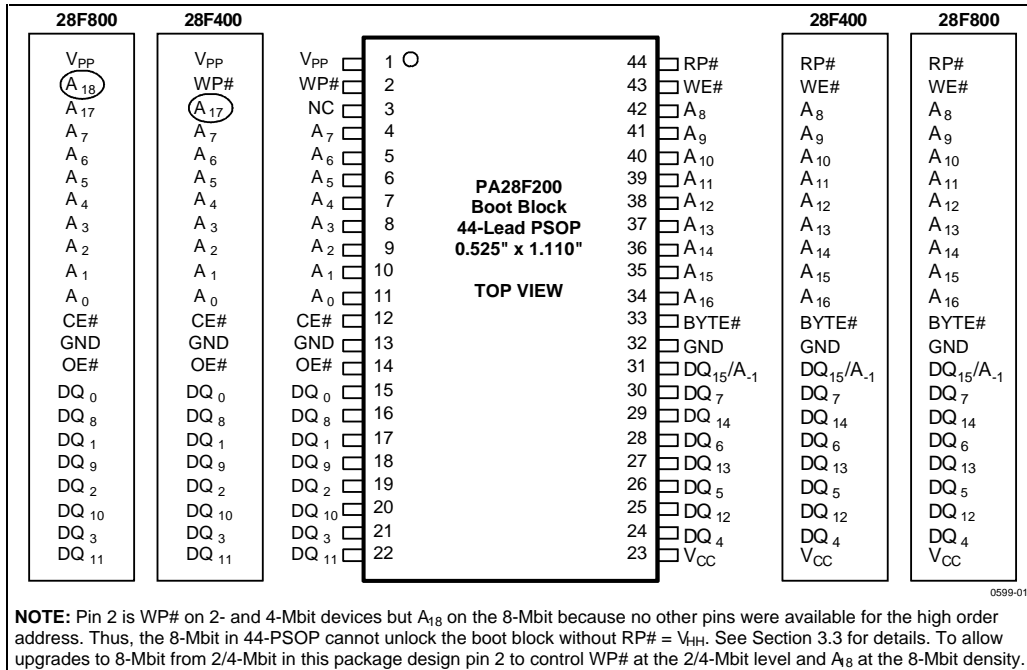
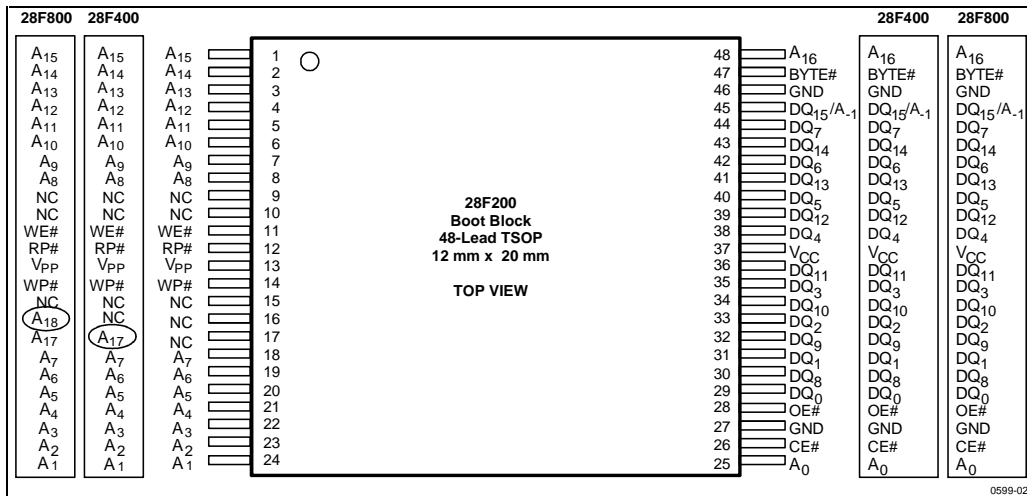

Figure 1. 44-Lead PSOP Pinout Diagram
Figure 2. 48-Lead TSOP Pinout Diagram
-002	Minor changes throughout document. Section 3.1.5 and Figure 14 redone to clarify program/erase operation abort. Information added to Table 2, Figure 1, and Section 3.3 to clarify WP# on 8-Mbit, 44-PSOP. Read and Write Waveforms changed to numbered format. Typical numbers removed from DC Characteristics and Erase/Program Timings.
-003	Minor text changes throughout document. Figure 1, 44-PSOP pinout: mistake on pin 3 on 2-Mbit pinout corrected from A ₁₇ to NC. Specs t_{EHQZ} and t_{GHQZ} improved. Explanations of program/erase abort commands reworked in Table 6, Command Codes.
These Smart 5 memory products are available in the 44-lead PSOP (Plastic Small Outline Package), which is ROM/EPROM-compatible, and the 48-lead TSOP (Thin Small Outline Package, 1.2 mm thick) as shown in Figure 1, and 2, respectively.
Intel's Smart 5 boot block architecture provides upgrade paths in each package pinout up to the 8-Mbit density. The 44-lead PSOP pinout follows the industry-standard ROM/EEPROM pinout, as shown in Figure 1. Designs with space concerns should consider the 48-lead pinout shown in Figure 2. Applications using an 8-bit bus can use the 40-lead TSOP, which is available for the 4-Mbit device only.